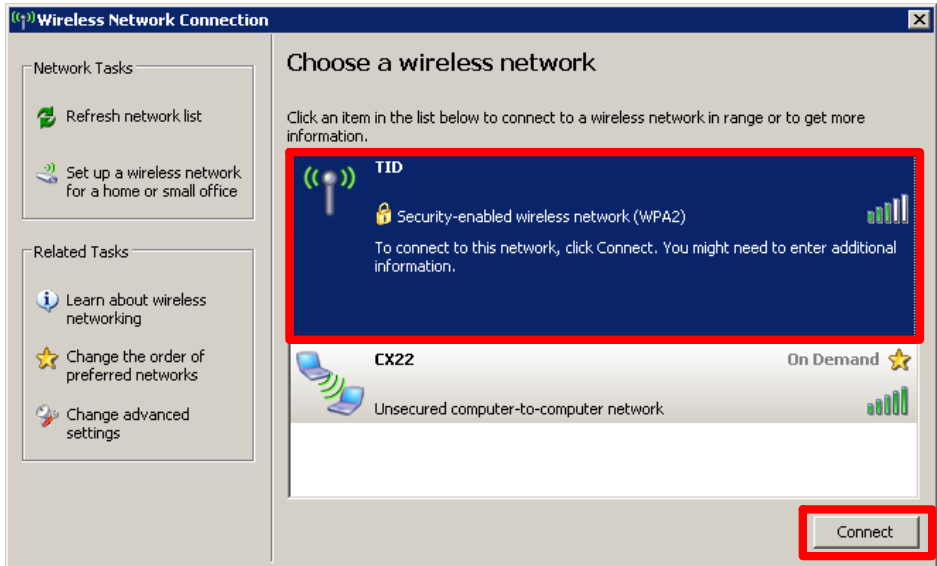

Fig. 7.5 Choosing a network and connecting to the network
3. Select the network of your Access Point and click on **Connect** (Fig. 7.5).